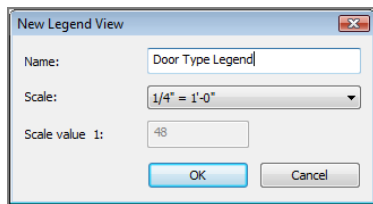

FIGURE 11.40: Choose $1/4" = 1'-0"$ (1:50mm).
2. The next dialog wants you to specify a scale. Choose $1/4" = 1'-0"$ (1:50mm). This is fine for now (see Figure 11.40).